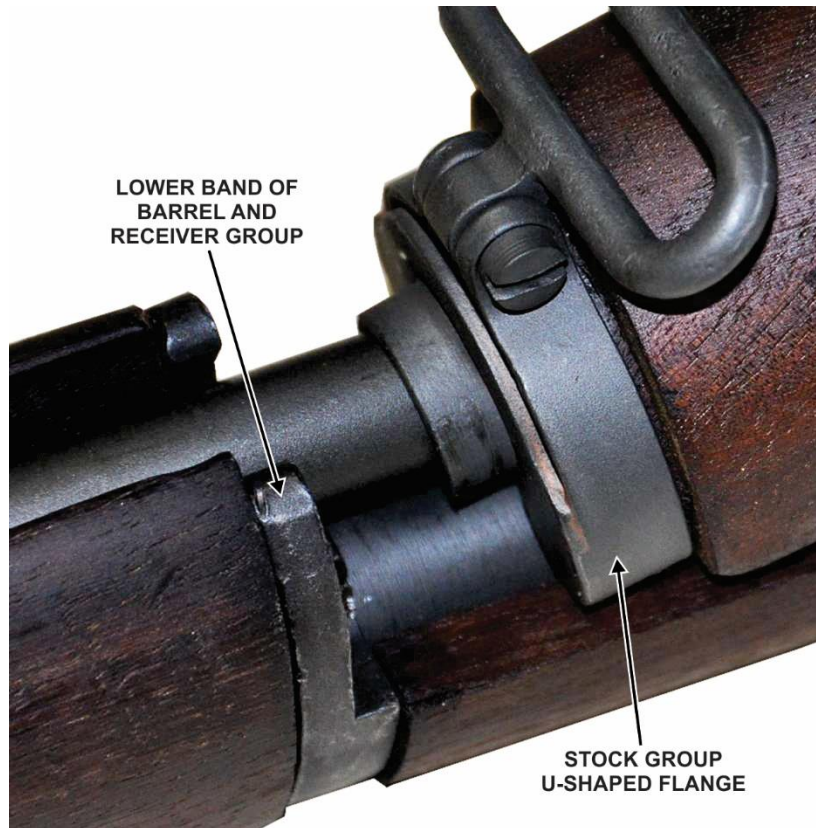

Figure 53. Assembly of stock group
- 1) Pick up the stock group and engage the U-shaped flange on the front of the stock into the lower band of the barrel and receiver group, then lower the stock group onto the barrel and receiver group (fig 53).